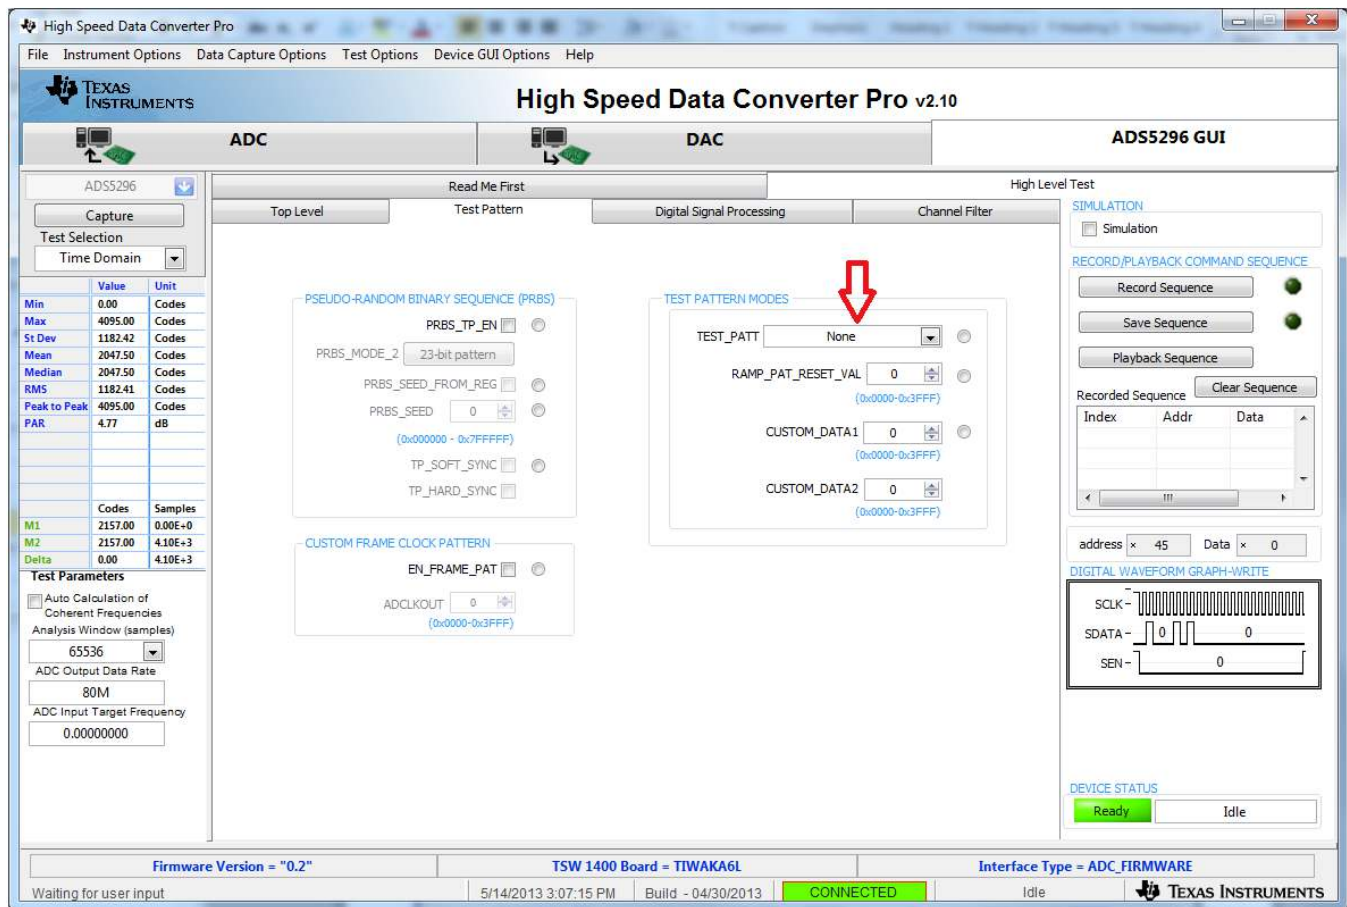

Figure 39. ADS5296 GUI Setup for Octal Non-Interleaving Mode
3. Click on *ADS5296 GUI* tab and ensure that the **TEST\_PATT** field is set to **None**, as shown in Figure 39.